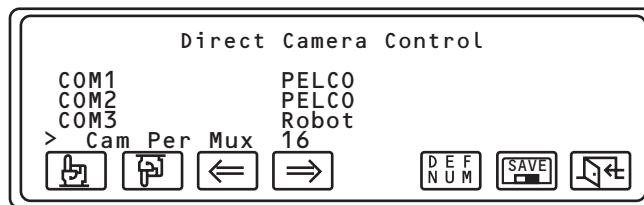

Figure 25. Cameras Per Multiplexer
5. Enter a number for the number of cameras to be connected to the MUX. Figure 25 shows 16 cameras.